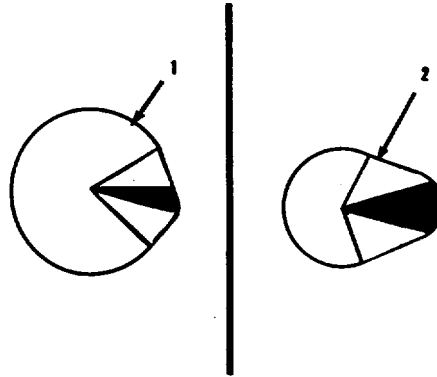

FIGURE 4-63. Camshaft Inspection Areas.
- (8) Do not use the camshaft if there is any of the following open indications:
- indication in the black or shaded areas shown in FIG. 4-63.
(9) Do not use camshaft if there is any of the following indications below the surface:
- two indications in shaded area (FIG. 4-63),
- indication in black area of injector lobe (1).
- more than two indications in black area of valve lobe (2),
- indication in black area of valve lobe (2) longer than 1/8 inch (3 mm).